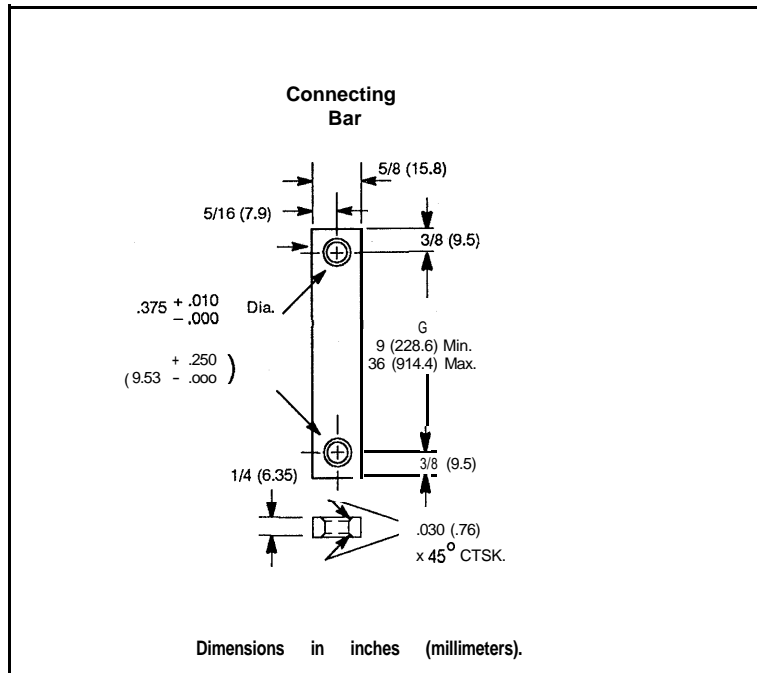

Figure 3
1. Measure the "G" dimension on the enclosure as shown in Figure 1. Cut and drill the connecting bar as shown in Figure 3 above. Do not exceed the minimum and maximum limits.